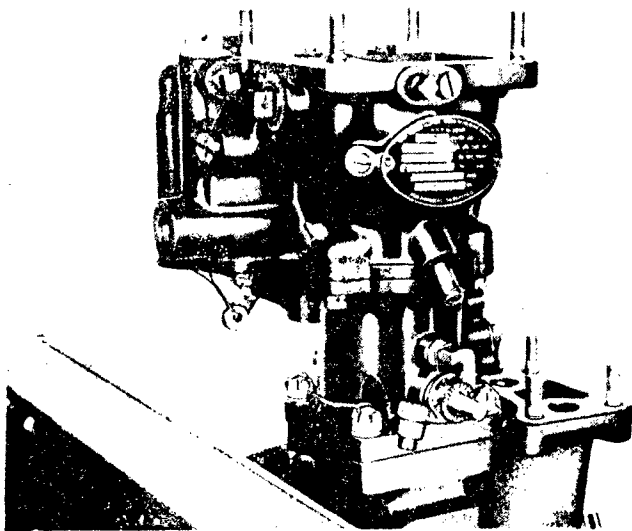

Figure 80 — Stromberg H8R60 Carburetor Installed
(1) Attach the rear crankcase to the assembly stand and place in the horizontal position. Place a gasket on the studs at each tappet pad and install the 14 tappet guides over the studs.
(2) Place the carburetor in position on the rear crankcase with the float chamber facing No. 1 cylinder port. (See figure 80.)